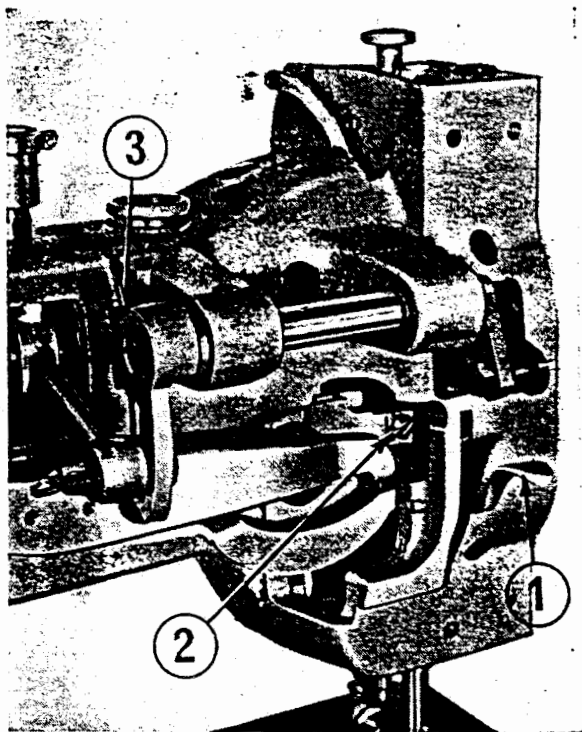

Fig. 19
To adjust the height of the presser foot by the hand lifter (Fig. 19 ①), loosen the clamp screw of the lifter lever bracket (Fig. 19 ②), adjust the clearance between the lower surface of the presser foot and the upper surface of the needle plate to approximately 8.5 mm (5/16") while lifting the hand lifter, then tighten the clamp screw.
clamping screw of the work foot bar arm (Fig. 19 ③), rotate the hand wheel slowly towards you and when the surface of the presser foot and the work foot bar come in one line with respect to the upper surface of the needle plate when the presser foot completes its oscillating movement, tighten the screw. To change the rising amount of the presser foot and the work foot bar, loosen the work foot bar arm set screw (Fig. 19 ③) and when the lower surface of the presser foot and the work foot bar come in one line above the needle plate, turn the hand wheel towards the operator and re-tighten the screw. Then the presser foot amount becomes larger than the work foot bar amount. But if the hand wheel is rotated in the reverse direction away from the operator, the reverse condition ensues, i. e. the rising amount of the work foot bar gets larger than the presser foot. Consequently, the greater the rotation of the hand wheel, the greater the difference in the rising amount of the presser foot and the work foot bar.